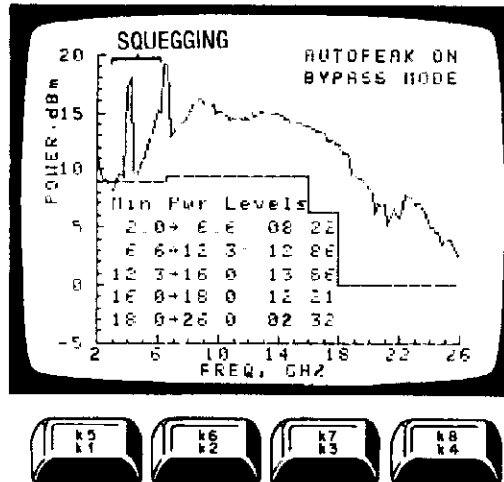

Figure 8-34. Squegging
**Squegging.** Squegging is an unstable YTM output caused by too much power being applied to the YTM input. See figure 8-34 for an example of squegging. This condition can occur in Band 1 because the RF signal itself (rather than some harmonic of the RF signal) is applied to the YTM. To prevent squegging in Band 1, the RF signal is clamped to a safe power level before it is applied to the YTM. Therefore, if squegging occurs, first try to readjust the clamp circuit.